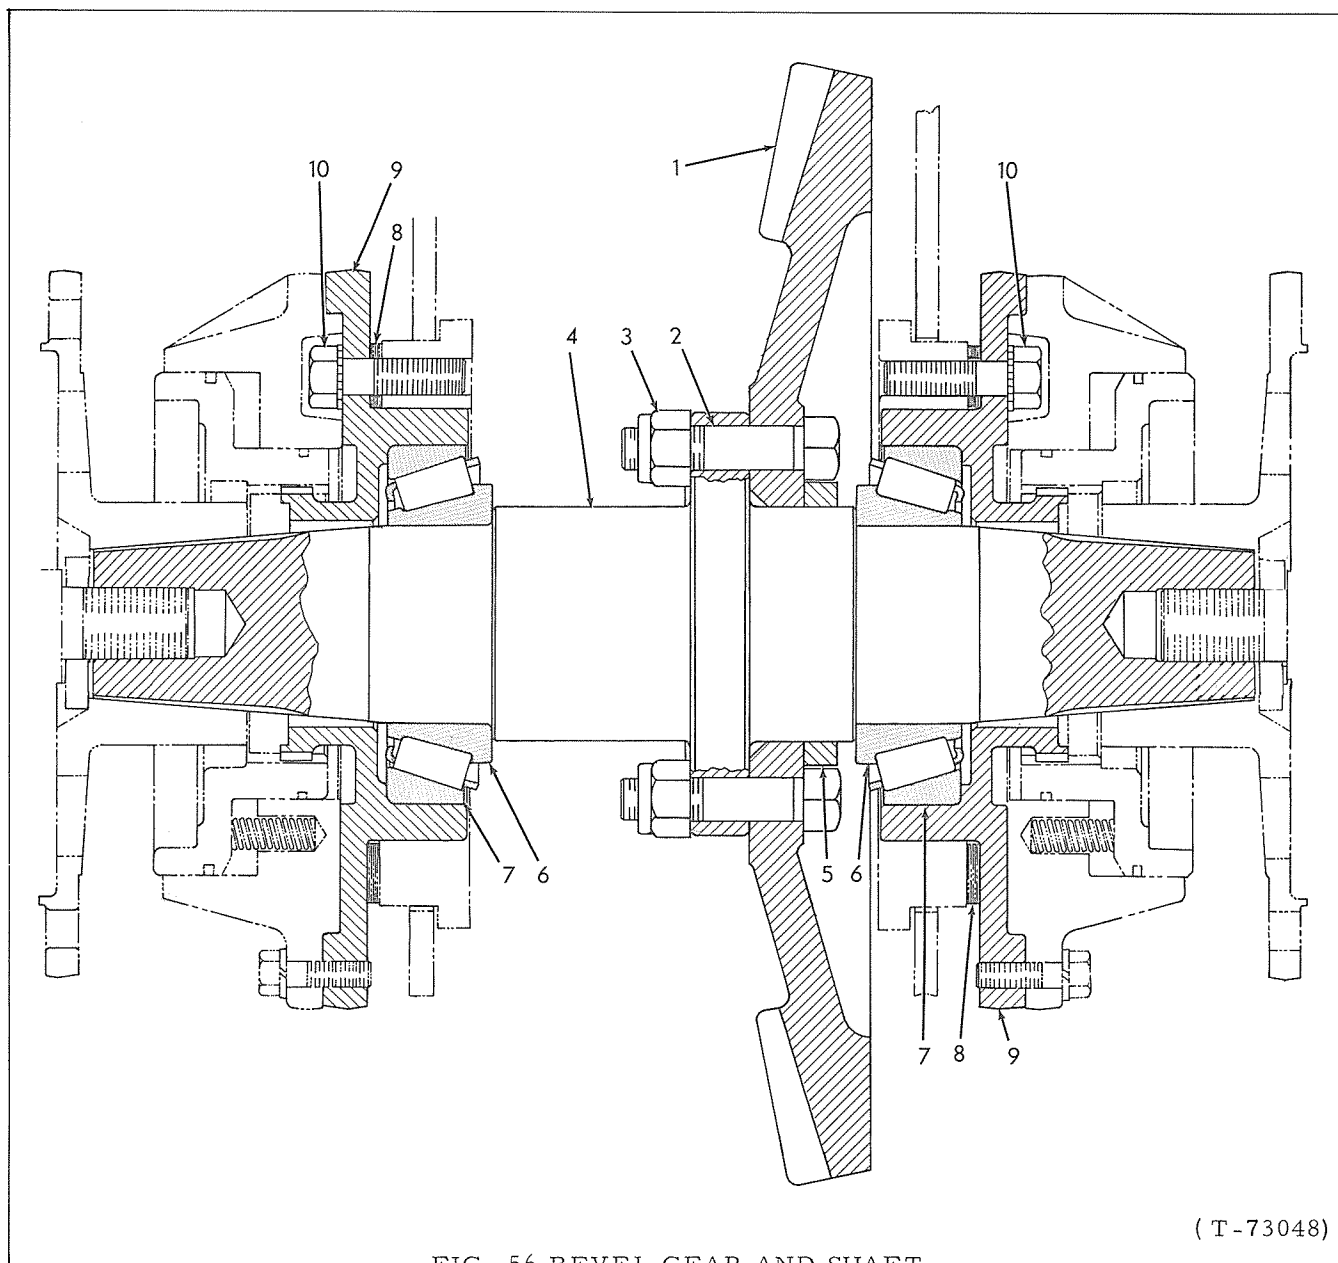
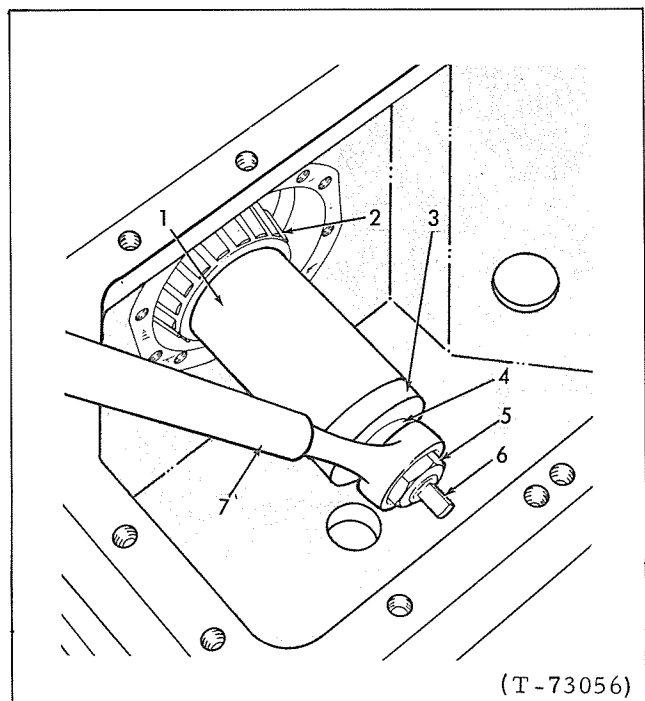

FIG. 56 BEVEL GEAR AND SHAFT
FIG. 58 INSTALLING BEVEL GEAR SHAFT-BEARING CONE
Bevel gear, located in center compartment of Main housing, is attached to flange on bevel gear shaft, Fig. 56. Bevel gear shaft is supported at each end by tapered roller bearings
3. Refer to Fig. 56, remove capscrews attaching bearing cages (9) to inner walls of steering clutch compartments; place wooden block under bevel gear to support gear and shaft and remove bearing cages; tie bearing adjustment shims (8) to their respective cages to prevent loss. Mark bearing cages so they will be reinstalled in their original positions (left and right).
6. Remove bearing cone from bevel gear shaft; remove bearing cups, Fig. 56 (7), from bearing cage assemblies.
1. Refer to Fig. 56; press one bearing cone (6) on long end of shaft with large O.D. of bearing tight against shoulder on shaft. Place bevel gear on suitable work bench (with teeth of gear downward). Position capscrew locking ring (5) on bevel gear and install capscrews (2) in bevel gear; turn capscrew heads as necessary to clear locking ring as capscrews are installed.
2. Remove locking ring and position bevel gear in bevel gear compartment Fig. 56. Install bevel gear shaft through steering clutch compartment on tooth side of bevel gear and align capscrews in bevel gear with holes in bolting flange of shaft. Bump or drive bevel gear shaft into bevel gear until nuts (3) can be started on capscrews. Install locking ring (5) and tighten nuts evenly until bevel gear is properly located on shaft.
3. Lubricate other bearing cone, Fig. 56 (6) and start it on short end of bevel gear shaft with large O.D. of bearing toward bevel gear. Refer to Fig. 58, install puller screw in tapped hole in end of shaft and place tube against inner race of bearing cone. Install tube cap, thrust washer, and hexnut; tighten hex-nut until bearing cone is tight against shoulder on shaft; remove tools.
4. Press bearing cups, Fig. 56 (7) into bearing cages (9); be certain cups are seated firmly in cages. Lubricate bearings with clean oil and install each bearing cage (with original bearing adjustment shims) in bore from which it was removed.
5. Start bearing cage attaching capscrews (10), but do not tighten.
6. Torque nuts, Fig. 56(3), on bevel gear attaching capscrews to 165 to 175 lbs.ft. (22.81-24.20 kg-m).